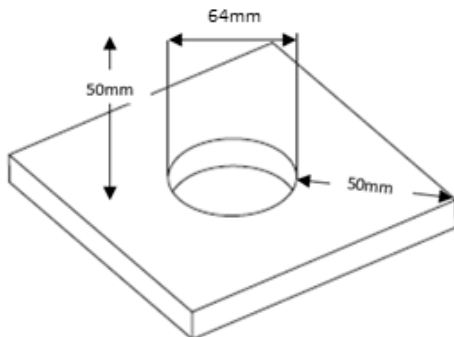

Fig 1
- Cut a suitable hole in the surface as per the cut-out details (see Fig 1) ensuring not to infringe with any joists, gas / water pipes or electrical cables